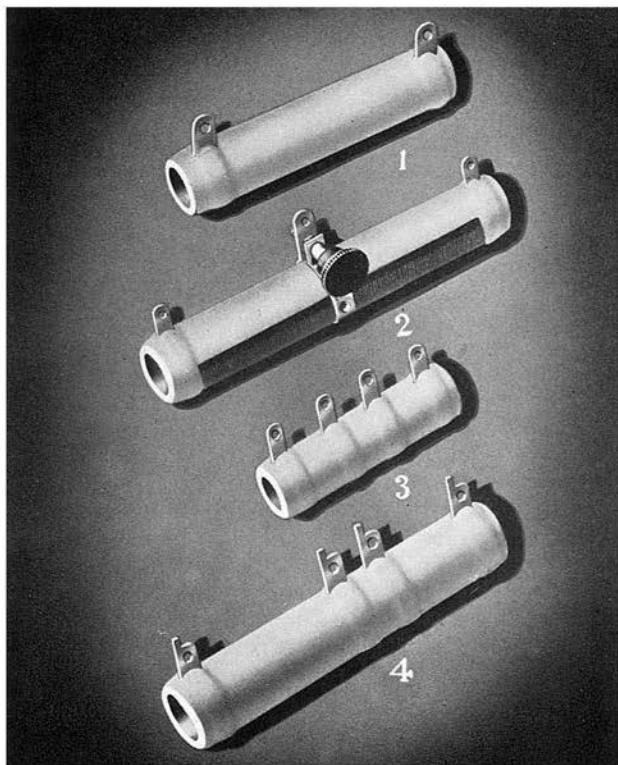

Figure 3-3. Basic forms of Vitrohm tubular resistors
2. *Forms*—Four basic forms of Vitrohm tubular resistors, Figure 3-3, are available to the design engineer.